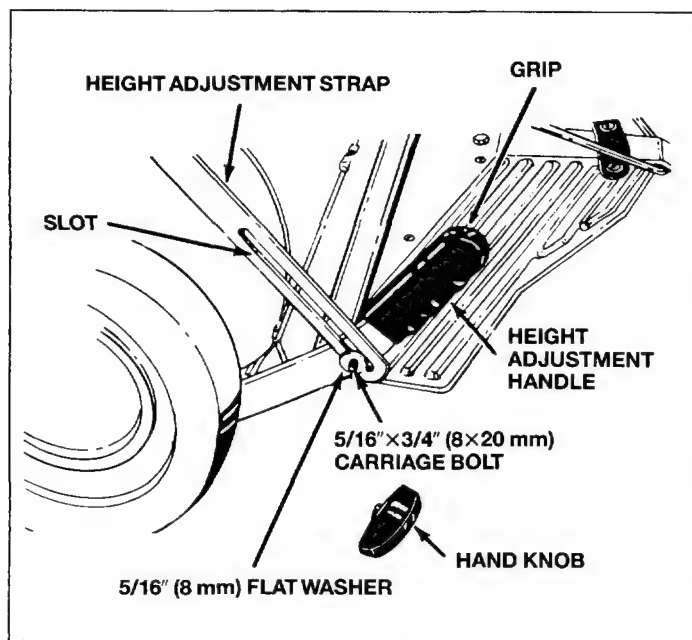

Fig. 10
10. Assemble other end of height adjustment strap to height adjustment handle. See figure 10. Place slot on strap in line with square hole in height adjustment handle. Secure strap with $5/16" \times 3/4"$ (8×20 mm) carriage bolt; $5/16"$ (8 mm) flat washer and hand knob. See figure 10.
11. Assemble the grip, with finger knobs as shown, to the height adjustment handle. See figure 10.